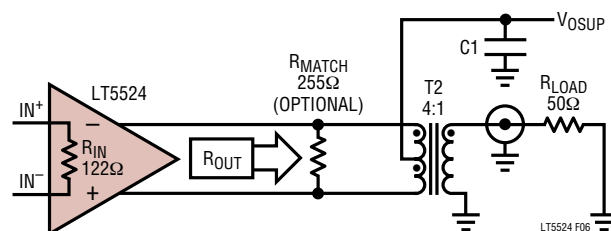

Figure 6. Output Impedance-Matched and Transformer-Coupled to a Single-Ended Load
- The insertion loss of the output impedance transformation network (for example the transformer insertion loss in Figure 6)
- About –3dB loss if a matching resistor ( $R_{MATCH}$  in Figure 6) is used to provide output load impedance back-matching (for example when driving transmission lines)